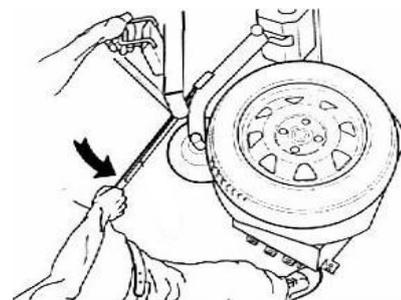

Fig 17
- d- Depress the corresponding pedal to turn the turntable in clockwise direction, operate the switch handle to rise the auxiliary arm until the bottom bead remove from the rim completely; ( Fig 17)